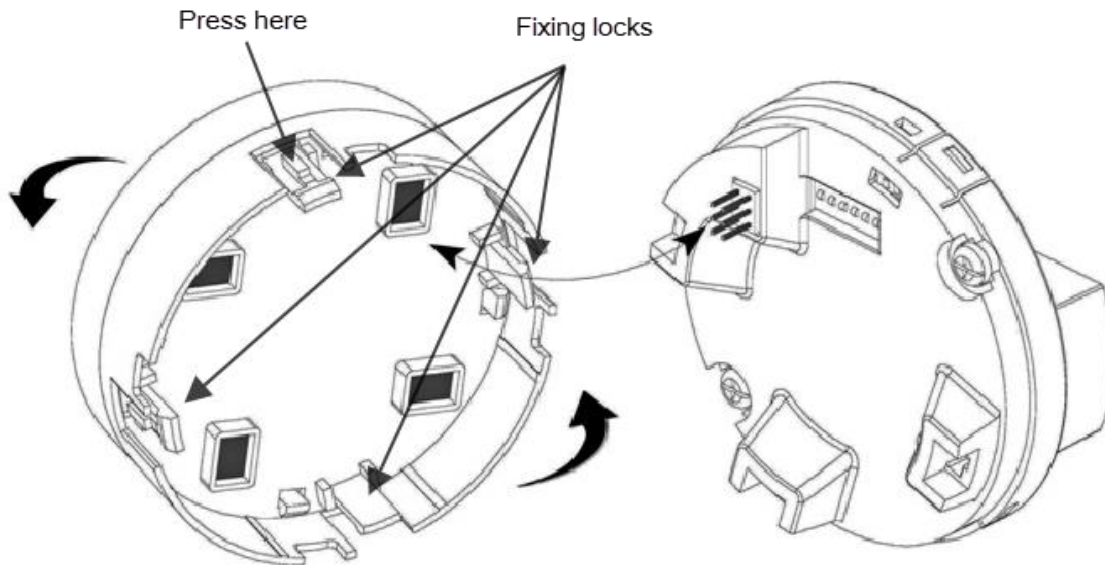

Figure 19: Display rotation
2. Disengage the four (4) fixing locks by pressing in on each one with a small slotted screwdriver (Figure 19).